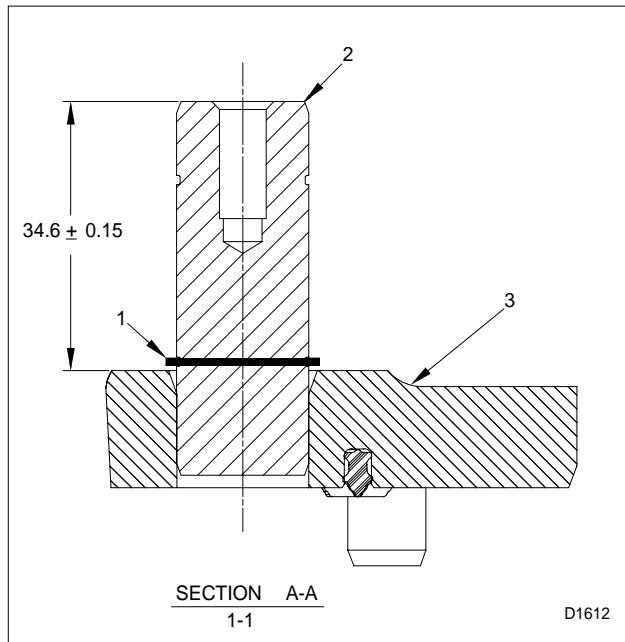
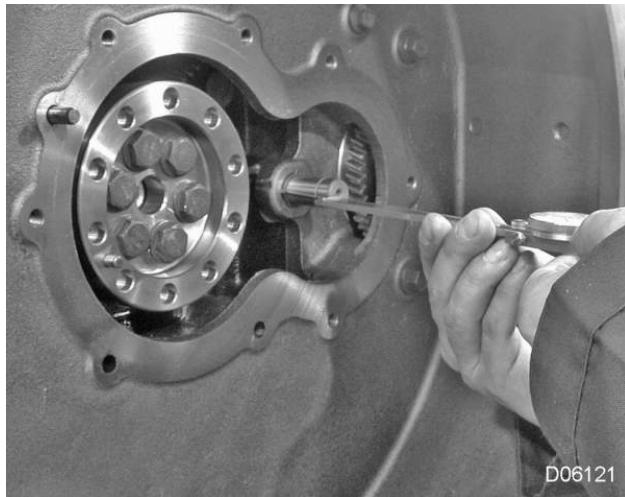

Figure 25 Power Steering Idler Shaft Installation Depth
Figure 26 Verify Idler Shaft Height
27. Verify idler shaft protrusion, using a dial caliper (Figure 26). Idler shaft should extend 34.6 ± 0.15 mm (1.362 ± 0.006 in) beyond the surface of the rear cover (Figure 25).